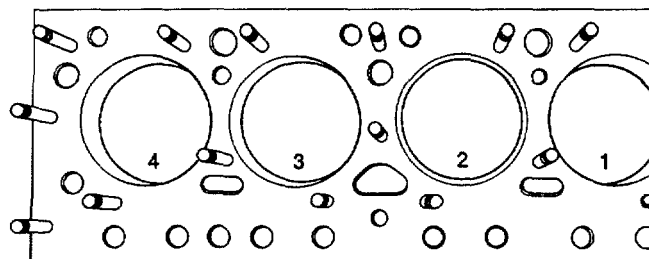

Figure 5-21. Engine Block.
- (13) When each piston (5) has been skimmed, check it again when finally refitted to ensure that any new piston fitted is now within the limits quoted. Once the piston height is correct, mark any such piston on the crown with the number of its respective bore (see Figure 5-21).
- (14) Install the oil pump (see paragraph 5-21).
- (15) Install the cylinder head assembly (see paragraph 5-15).